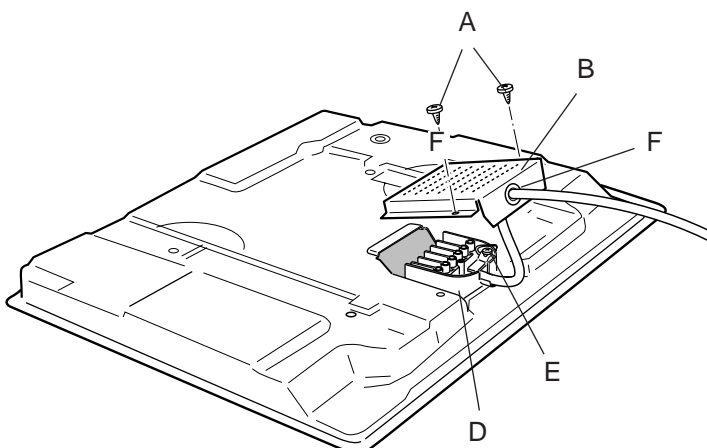

Fig. 6.9
- ✓ Unscrew screws "A" and remove protection "B" (fig. 6.9)
- ✓ Unscrew cable clamp "E" (Fig. 6.9).